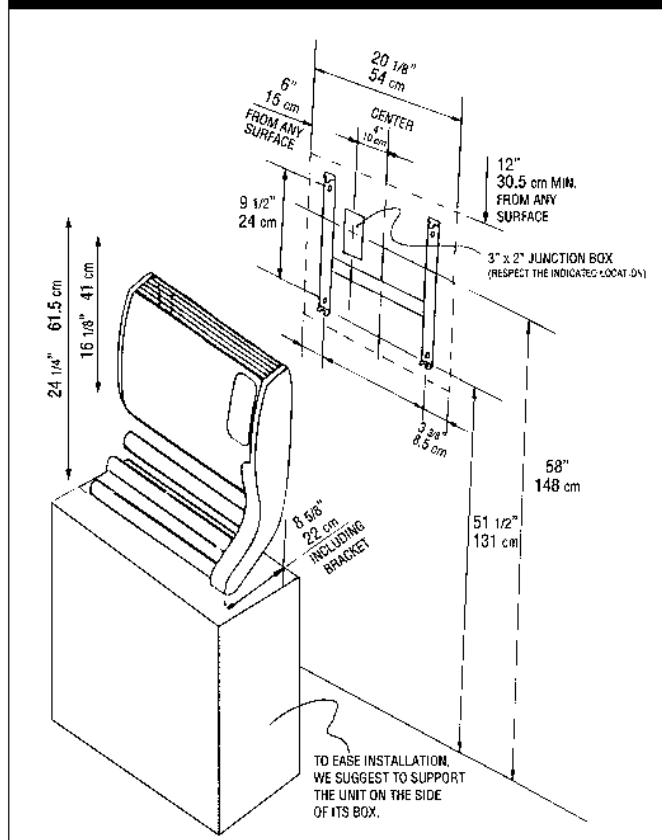

Figure 1
- 1- To facilitate installation, we suggest that the unit be placed on the side of its box when making final connection (Figure 1).